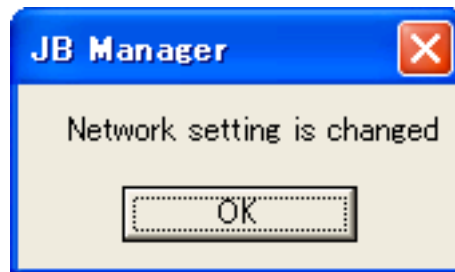

Figure 5-7 Message Indicating Completion of Configuration
8. When the changes have been completed, **Figure 5-7** appears.